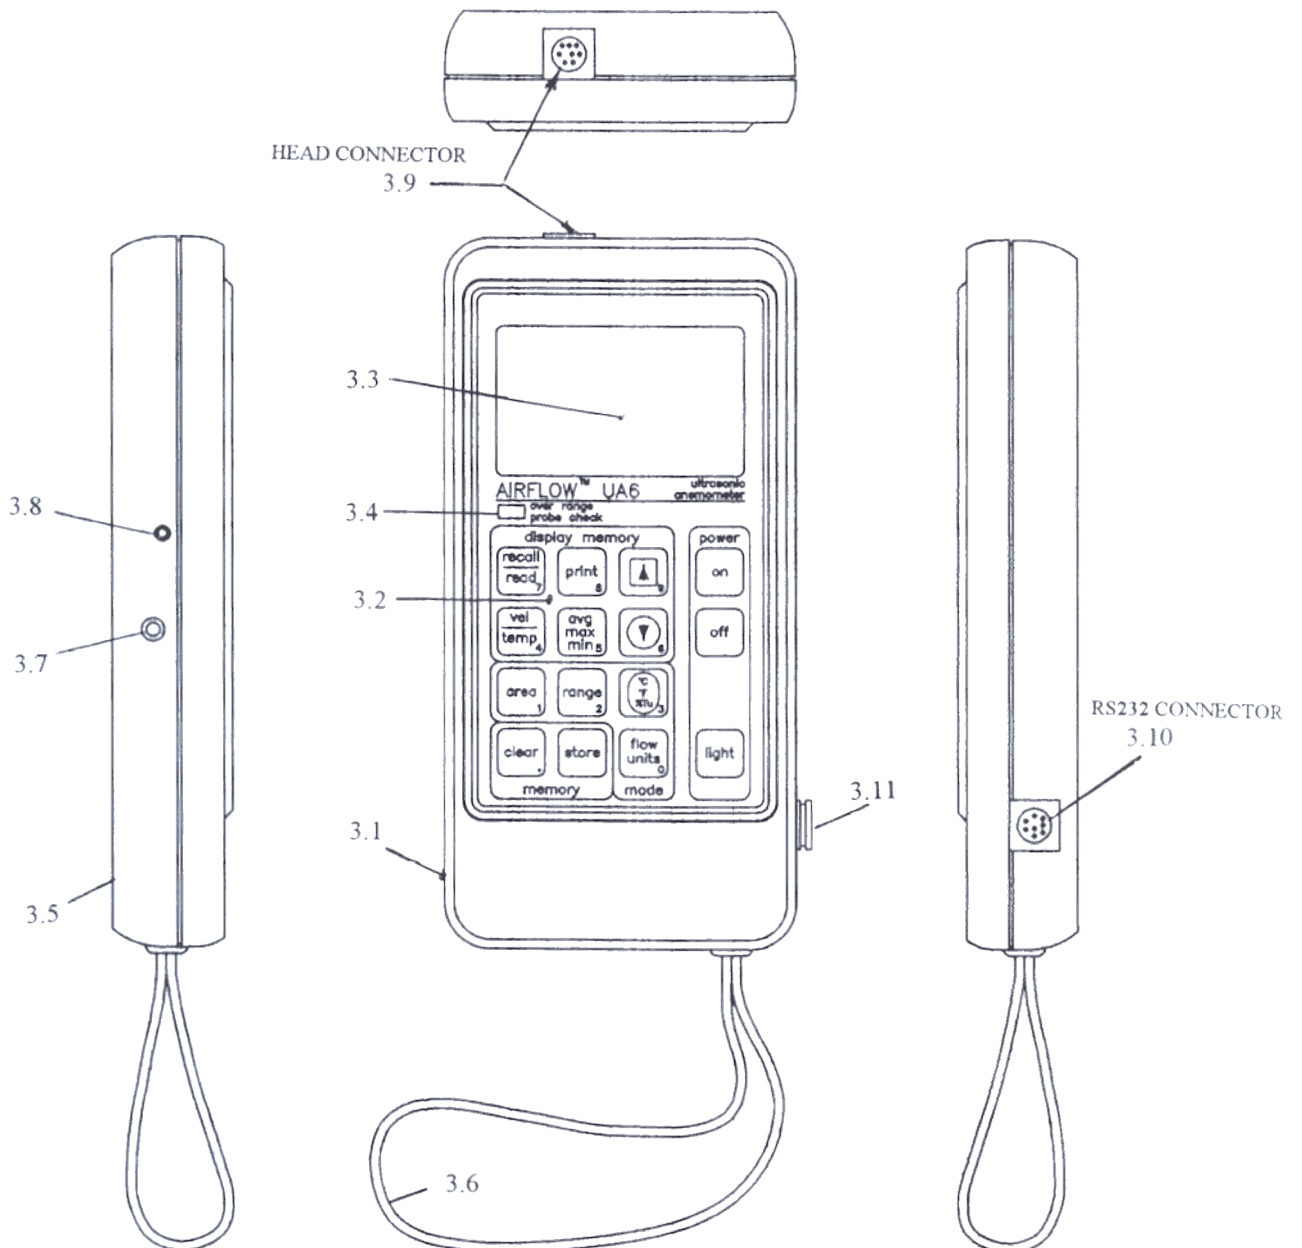

Fig 2 UA6 Instrument
- 2.3 **Battery eliminator:** this connects via the 2.5mm jack socket (item ref. 3.8 FIG.2). Supply requirements are 6 volt d.c. at a minimum current of 100mA with the jack tip being supply +ve. Airflow can supply a suitable unit under Part No's 9020897 (for 3-pin UK version) or 9020855 (for 2-pin European version).
3.1 DESCRIPTION OF THE INSTRUMENT (refer to diagram FIG.2).
The 8-pin mini-DIN plug connects to its mating socket on the **top of handheld instrument; item 3.9 shown on Fig.2.** Ensure that the pins are correctly aligned with the socket pins before inserting.
- (1) Connect the Ultrasonic Anemometer Head to its socket on the top of the hand-held instrument (FIG 2 item 3.9). **Ensure that the plug is orientated correctly before inserting.**